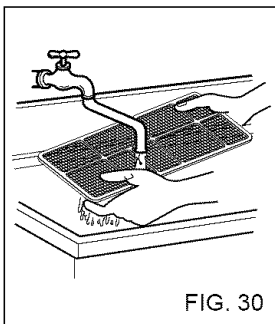

FIG. 30
- Wash the Air Filter under the faucet with warm water. Be sure to shake off all the water before replacing the filter. (FIG. 30)